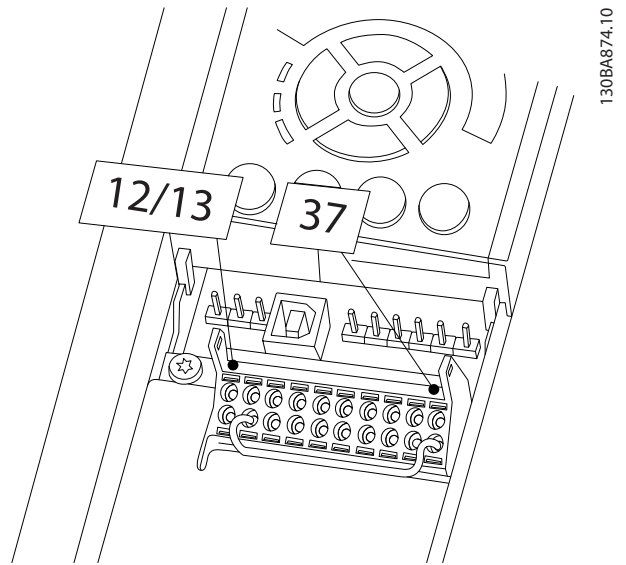

Figure 1.4 Jumper between Terminal 12/13 (24 V) and 37
1. Remove the jumper wire between control terminals 37 and 12 or 13. Cutting or breaking the jumper is not sufficient to avoid short-circuiting. (See jumper on *Figure 1.4*.)